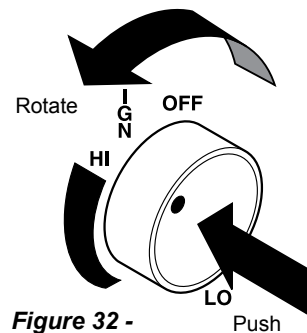

Figure 32 -
- Push in control knob and turn counterclockwise  to the HIGH setting. At this location the control knob will pop out when positioned correctly. The knob can now be positioned at any position between HIGH and LOW. Figures 32 and 33